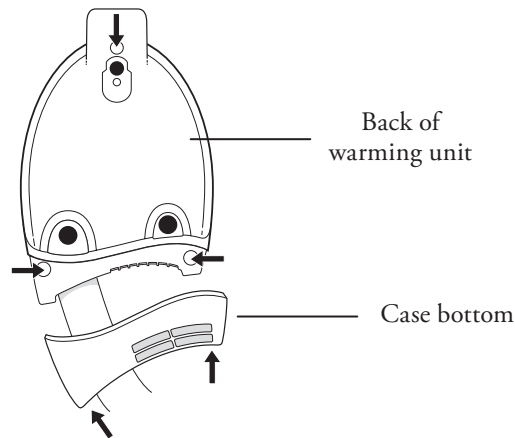

Figure 12. Removing the enclosure screws.
3. Remove the three screws on the back of the warming unit that hold the enclosures together (see Figure 12).